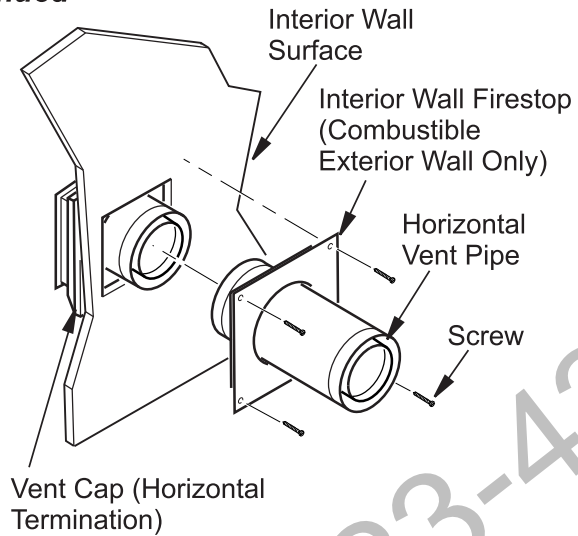

**Figure 20 - Installing Vinyl Siding Standoff (Combustible Exterior Wall)**
**Combustible Exterior Wall:** For vinyl siding, stucco, or wood exteriors, a siding standoff must be installed between vent cap and exterior wall. Siding standoff prevents excessive heat from damaging siding materials. Siding materials must be cut to accommodate standoff. Bolt vent cap to standoff. Apply non-hardening mastic around outside edge of standoff. Position standoff/cap assembly in the center of square hole and attach to exterior wall with wood screws provided (see Figure 20, page 15). Siding standoff must sit flush against exterior fascia material.